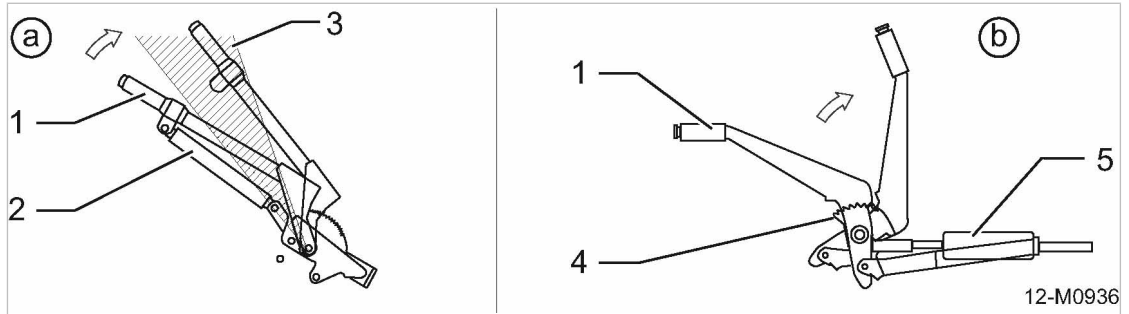

Fig. 92 Actuating the parking brake
2. Pull on the parking brake past the dead point zone (see Fig.92/a).
2. Pull on the parking brake to the last ratchet tooth (see Fig. 92/b).